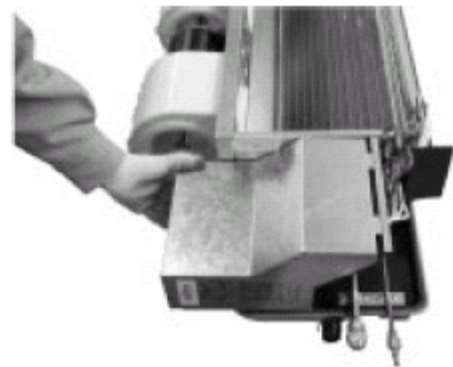

Fig 4.2-3
- Disassembly of electric box cover (as shown in Fig 4.2-3)